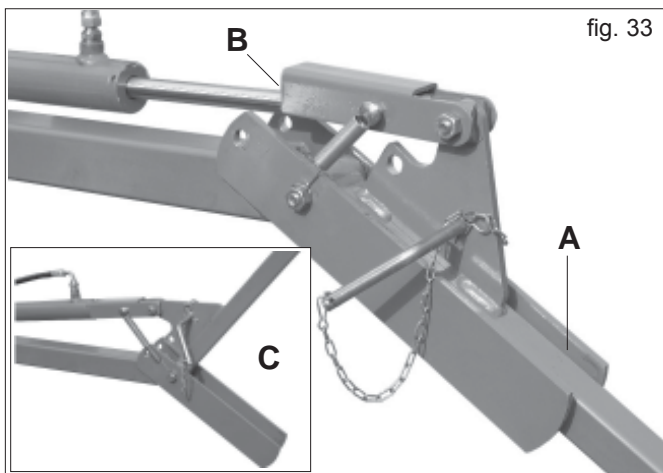

fig. 33
- 3) Actuate the hydraulic system and bring the harrow arms to the end of their travel (A Fig. 33).
- 5) Make sure the clamp is positioned properly along the cylinder rod (B Fig. 33).
The last operation allows the seed-covering harrow to be partially raised (C Fig. 33) and then positioned correctly when the planter is lowered again, during the turning operations in the headlands or any other manoeuvre with the machine lifted off the ground.